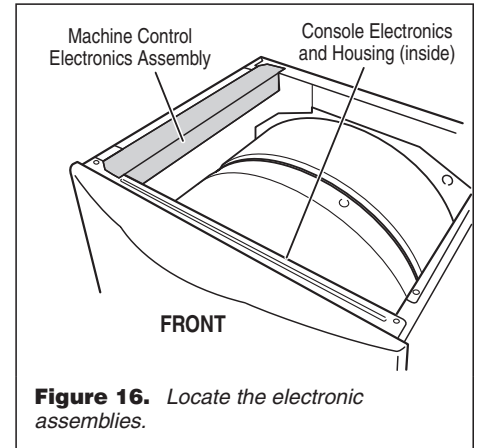

Figure 16. Locate the electronic assemblies.
2. Remove the top panel to access two electronic assemblies: the console electronics and housing, and the machine control electronics. See figure 16.